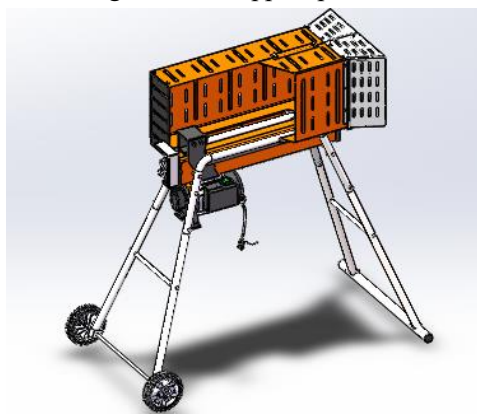

Fig. 3
3、 Connect the back cover, protection guard and support plate with M8×16 bolt and M8 nut. (Fig. 3)